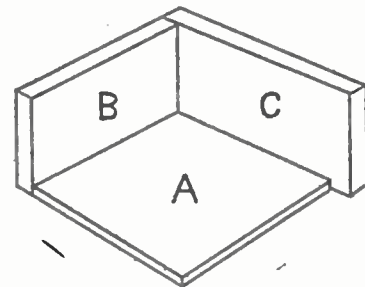

Fig. 2
A start is best made with the tray, which is shown in Fig. 2. The floor (A) is of 1/2 in. wood and should be cut 4 ins. square. (B) and (C) are of 1/2 in. wood and two of each will be needed. (B) is 4 ins. by 2 1/2 ins., and (C) 5 ins. by 2 1/2 ins. These should be cemented together with balsa cement and a few fret nails for extra strength may be used.